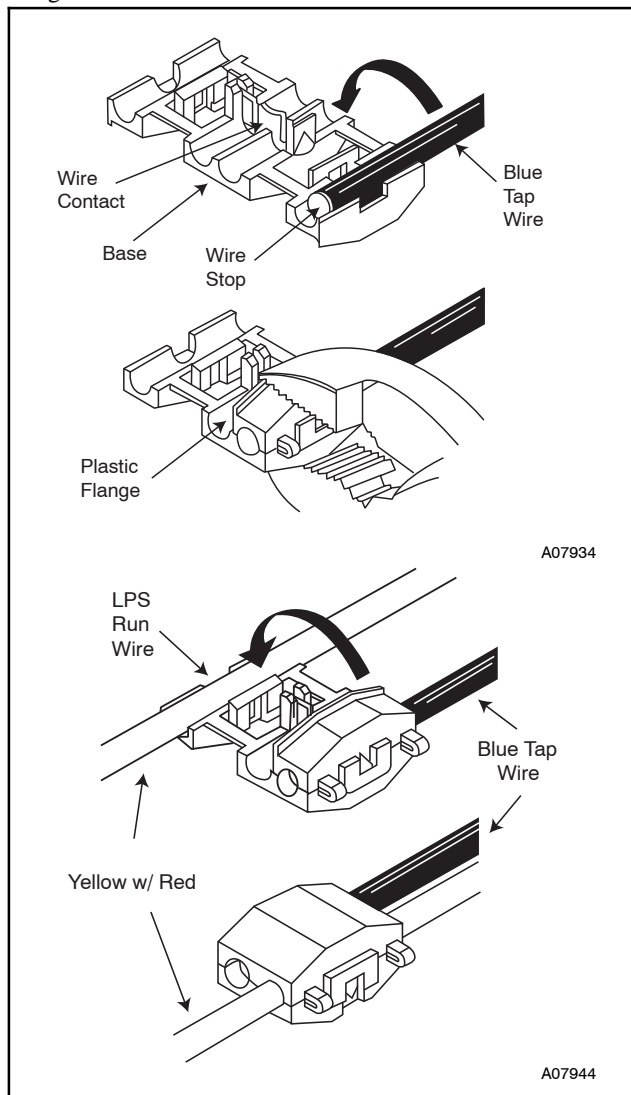

Fig. 1 - Installation
3. Secure the open end of Blue Tap wire to the insulated tap connector (see Fig. 1). To do this, simply butt the tap-wire against the wire stop. Fold the top cover half over to meet the base. Squeeze on the top cover and base with ordinary pliers until the latch locks. **DO NOT** place pliers on top of the raised plastic flange.